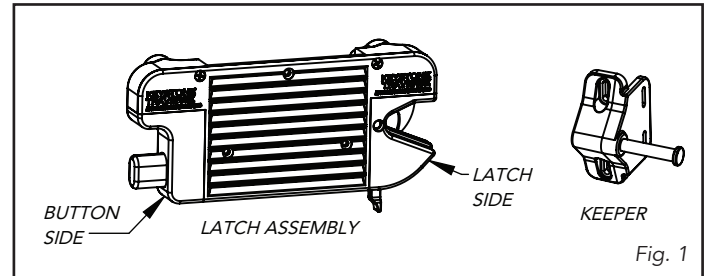
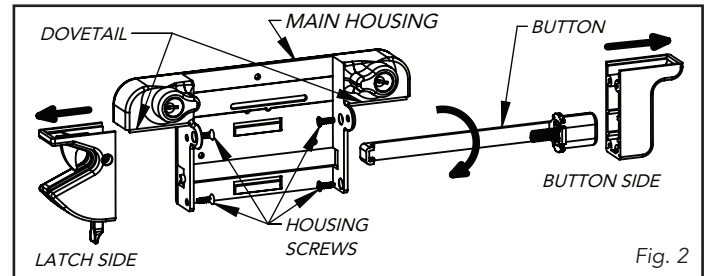

Fig. 1
Fig. 2
The hinge should be mounted (Fig. 1). The leaves should be positioned on the outside surface of the posts when the gate is closed. The top surface of the upper hinge should be mounted within 6" of the top surface of the top rail, and the bottom surface of the lower hinge should be mounted within 6" of the lower surface of the lower rail (Fig. 2).
1. Determine if the handing of the latch out of the package is correct for the application. When mounted on the fence post opposite the hinges, the latch side of the assembly (Fig. 1) should be on the same side of the fence as the hinges. If the latch needs to be reversed, continue to Step 2. If the latch does not need to be reversed, skip to Step 4.
2. Remove the (4) housing screws (Fig. 2). Slide the latch assembly from the main housing. Slide the button assembly from the main housing. Remove the button from the button housing, rotate the button 180°, and reinstall the button into the button housing, taking care to leave the spring in the button.